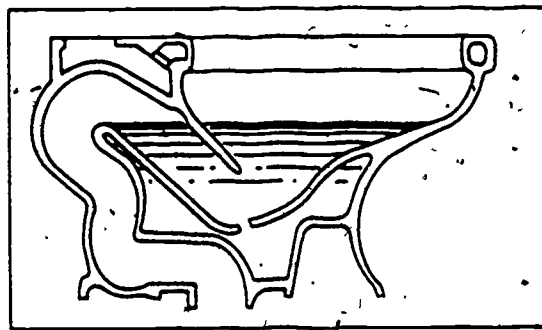

Figure 2-30. Siphon jet closet bowl.
d. Siphon jet bowl. The siphon jet bowl, shown in figure 2-30, is the most expensive, the quietest in operation, and the most efficient water closet bowl. It is similar in appearance to the reverse trap bowl, but it maintains almost a full bowl of water. Very little of the inside surface of the bowl is left uncovered when the water is at rest in the bowl.